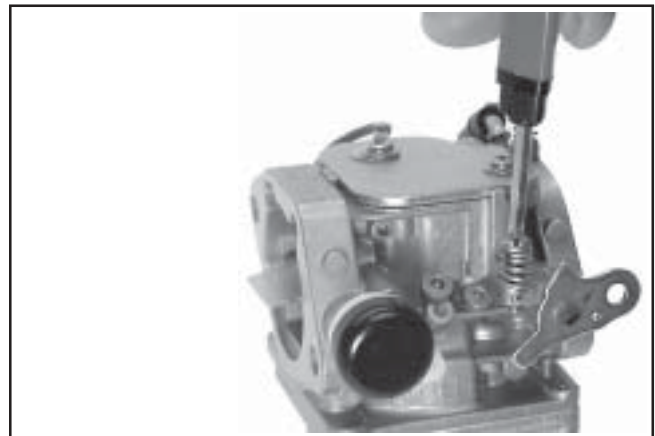

Figure 5-29. Installing Idle Speed Adjusting Screw and Spring.
18. Place the shorter new spring onto the idle speed adjusting screw and install it into the carburetor. Thread in until **3 or 4 threads** are exposed, as an initial adjustment. See Figure 5-29.